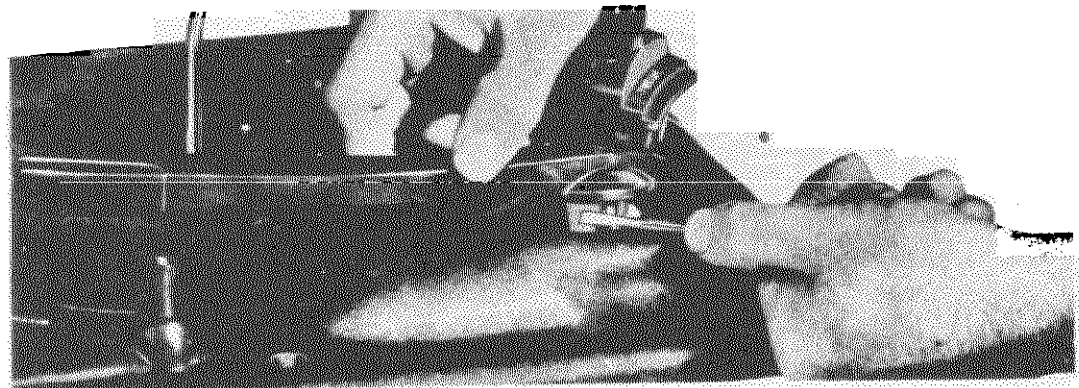

FIG. 3 - REMOVING PICKUP ARM ASSEMBLY
- 2 - Using a tool such as a screw-driver, press in on one of the blue steel Pickup Arm hinge brackets while lifting up on the arm. (Fig. 3). This will release the Pickup Arm Hinge pin.